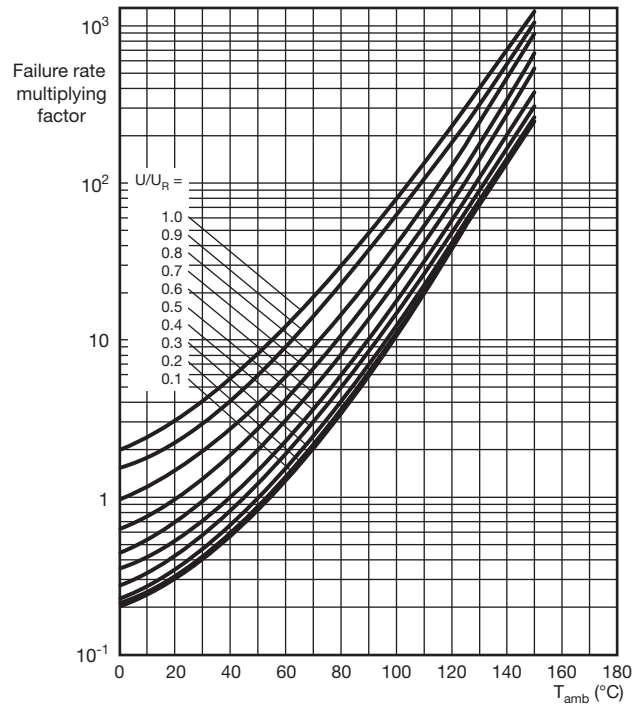
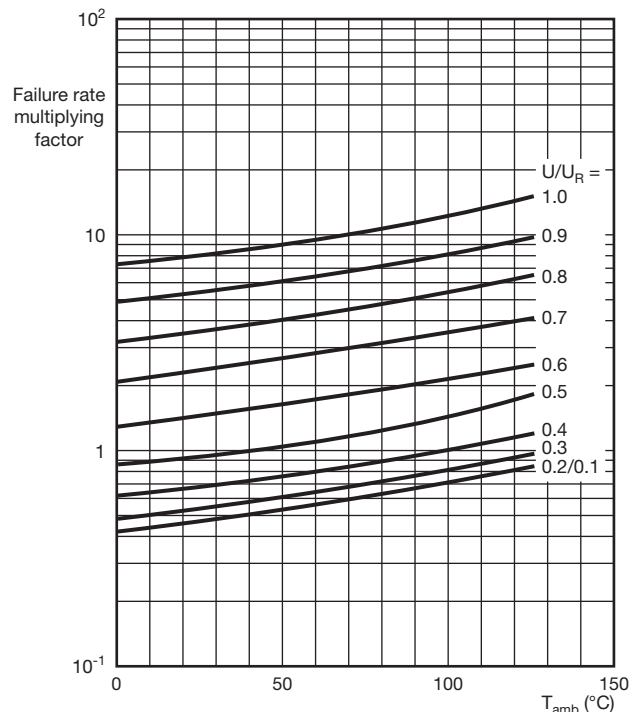

Fig. 18 - Conversion factors for failure rate (λ) as a function of ambient temperature (T_{amb}) and voltage ratio (U/U_R) for non-solid aluminum capacitors
Fig. 19 - Conversion factors for failure rate (λ) as a function of ambient temperature (T_{amb}) and voltage ratio (U/U_R) for solid aluminum capacitors
- c. Wear-out period, showing an increasing failure rate due to gradual deterioration. For aluminum capacitors with non-solid electrolyte, the onset of this period can be calculated with the nomogram (see Fig. 18).
In order to calculate λ for other operating conditions, the value for the failure rate multiplying factor, $\text{mult}(T, U/U_R)$ in the formula above, must be taken from Fig. 18 (non-solid aluminum capacitors) or Fig. 19 (solid aluminum capacitors).